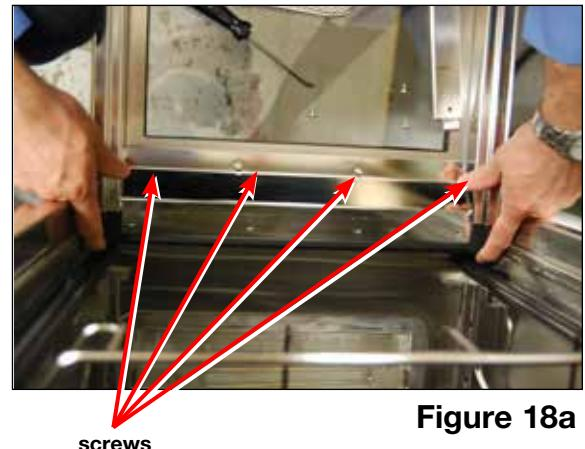

Figure 18a
2. Remove the 4 screws on the plate at the base of the door on the inside. (Figure 18a)